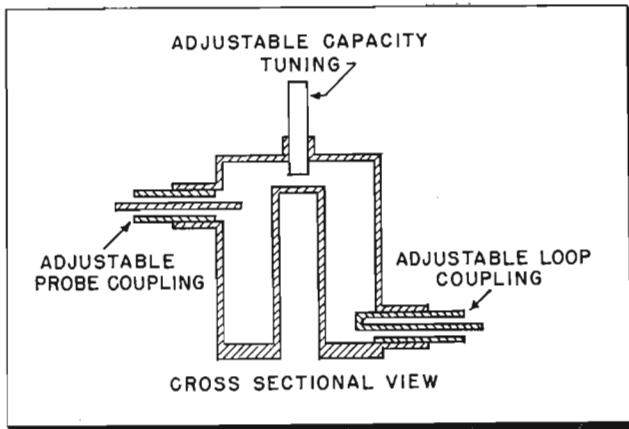

Fig. 1: Cavity with electrostatic (probe) and magnetic (loop) coupling
Fig. 3: (L) Diagram of A-428B preamplifier shown in Fig. 1 employs 12AY7 tubes. Fig. 4: (R) Intermodulation distortion s. power output characteristics show average levels of complex wave consisting of 40 and 2000 CPS. Peak amplitude is about 2 db greater than equivalent single frequency sine wave
THE problem of measuring the unloaded Q of various cavities is one that requires several precautions that are often neglected. A typical cavity is shown in Figure 1. If the unloaded Q is high, the errors in measurements may be as large as 50% from the true value. In this paper, several procedures are given from which an appropriate choice may be made, depending on the Q to be measured. The errors in results appear to be in the order of 4%.